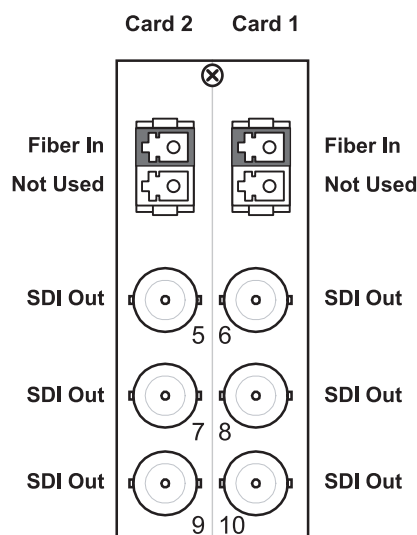

Figure 2.4 Cable Connections for the 8320AR-045 Rear Module
- **8320AR-045** Split Rear Module — Each rear module occupies two slots and accommodates two cards. This rear module provides one optical input, and three SDI outputs per card. Refer to **Figure 2.4**.